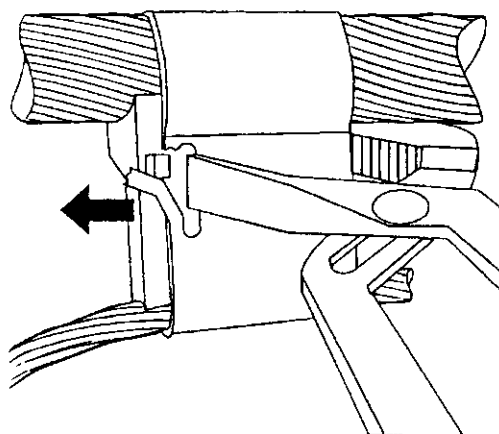

Figure 8
3. Anchor open pliers in slot and nudge wedge out of the other side. Remove wedge from "C" member. See Figure 8. Do NOT reuse removed connectors.